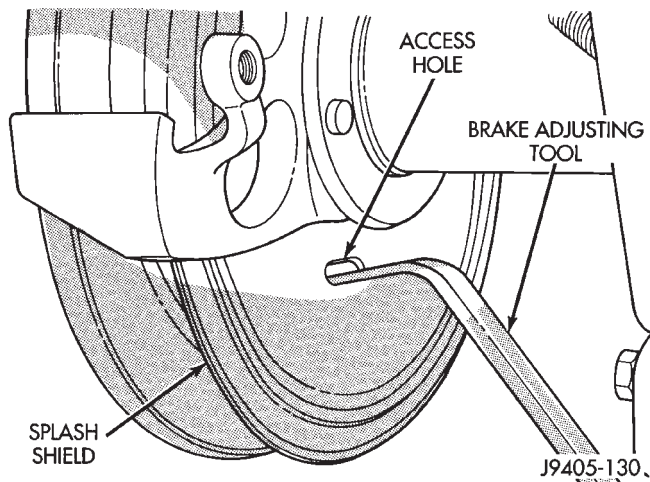

Fig. 84 Park Brakeshoe Adjustment
- (1) Remove wheel and tire assemblies.
- (2) Secure rotor with two wheel nuts.
- (3) Remove rubber access plug from back of splash shield.
- (4) Insert brake tool through access hole in splash shield (Fig. 84). Position tool at bottom of star wheel.
- (5) Rotate star wheel upward in counterclockwise direction to expand shoes (while facing front of vehicle).
- (6) Expand shoes until light drag is experienced. Then back off adjuster screw only enough to eliminate drag.
- (7) Install plug in splash shield access hole.
- (8) Install wheel and tire assemblies.